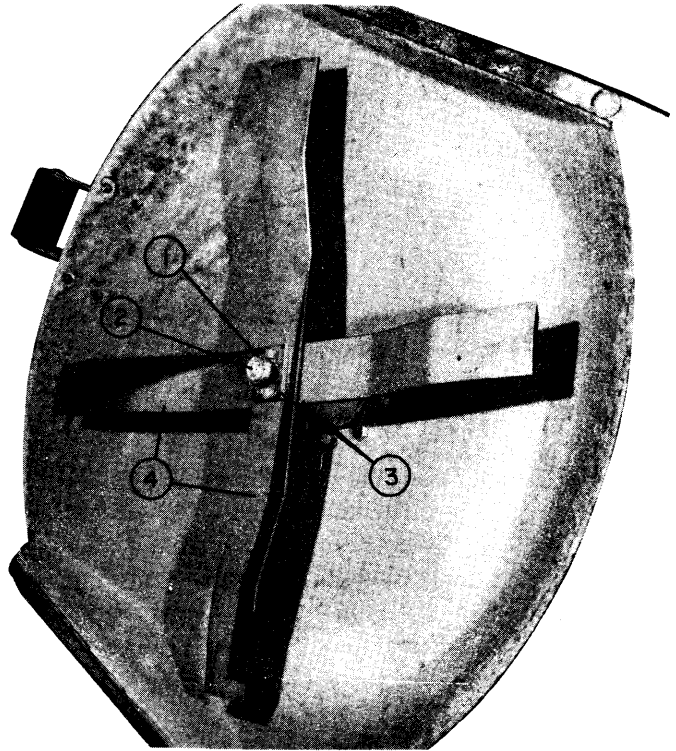

Fig. 5
7. For twin blade installation, five 1/4" spacers and one 1/8" spacer are required. Install two 1/4" (6.4 mm) spacers and one 1/8" (3.2 mm) spacer, then the blades and three 1/4" spacers and secure with the nut. Torque the nut to 100 ft. lbs. (135 Nm). See fig. 5. Discard the 1/4" spacer. (This 1/4" spacer is replaced by the 1/8" spacer).